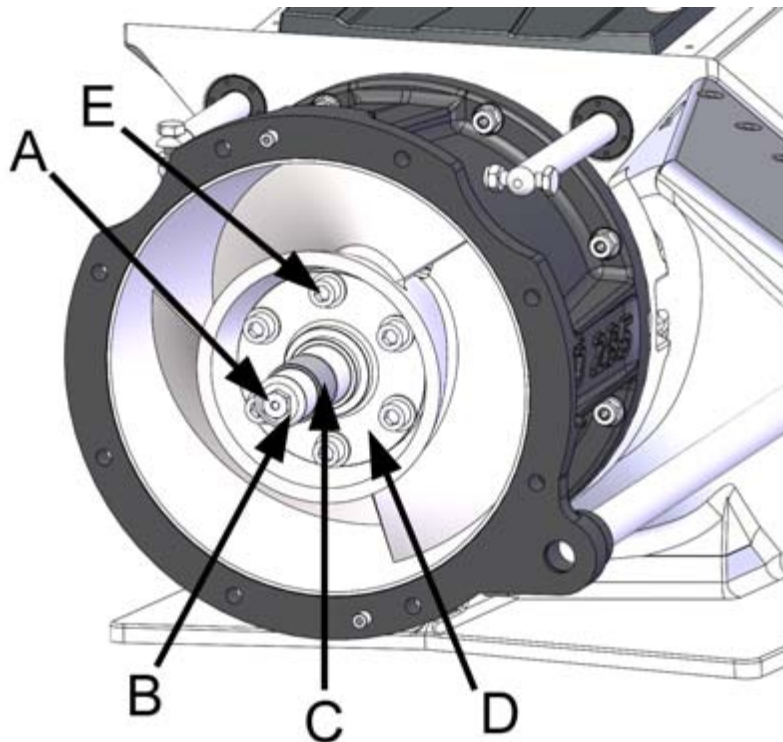

Figure 31. Impeller fastening screws, locking plate
4. Unscrew the screw located at the end of the shaft (figure 31, point A) and remove the locking plate (figure 31, point B).
5. Remove the impeller from the shaft together with the sleeve (figure 31, point C), and the mounting flange (figure 31, point D).